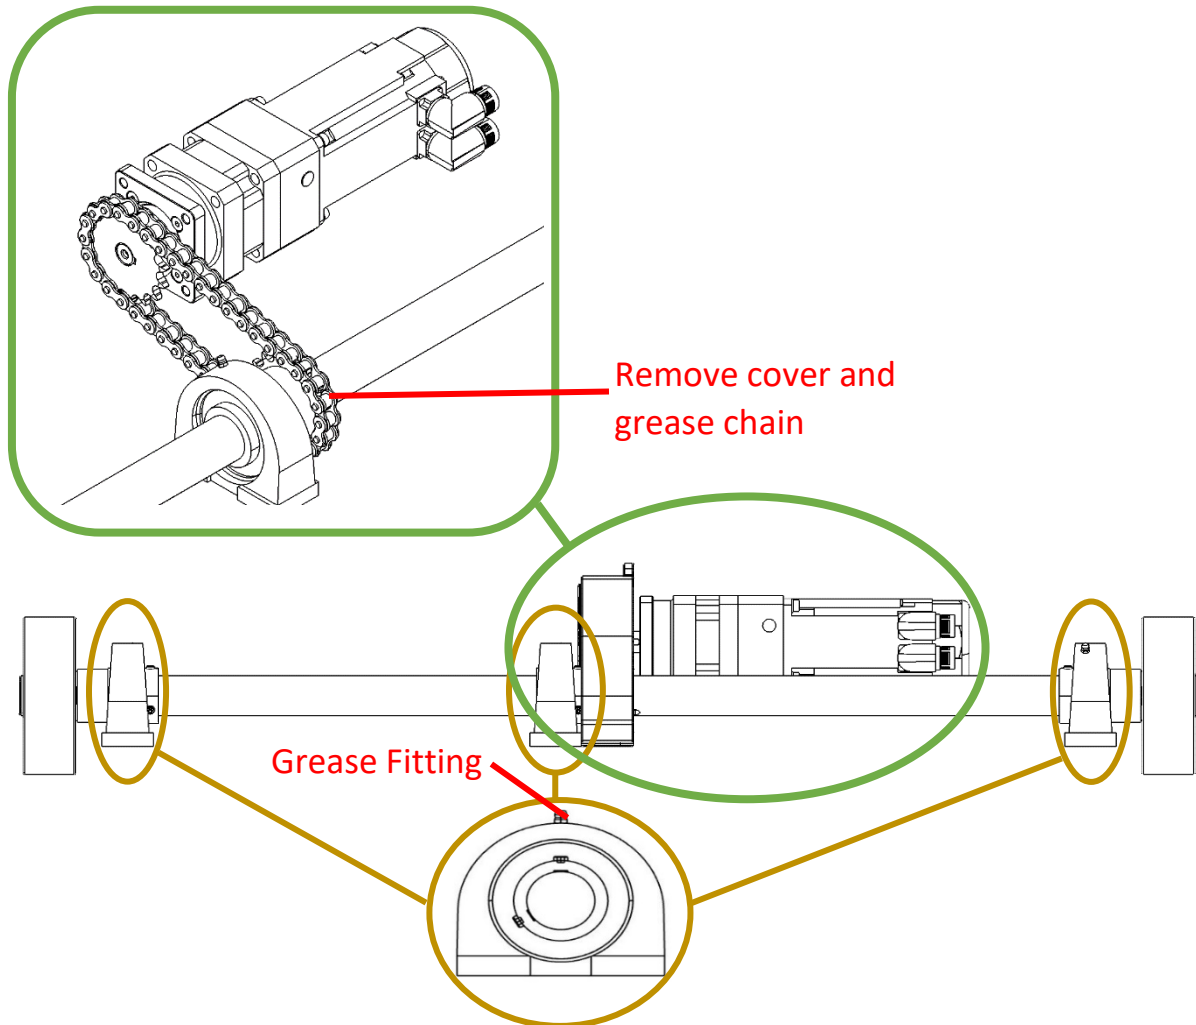

Figure 97: Tram Driveshaft Lubrication Points
**Tram Drive Shaft Bearings and Gearbox Lubrication** – Lubrication of the TyBOT Tram drive shaft bearings and gearbox should occur at 150-hour intervals. There are two bearings attached to the TyBOT idler shaft (see Figure 97). Each bearing and the gearbox are equipped with a grease fitting. Use a suitable tool such as a grease gun to purge general-purpose lithium-based grease through each bearing.